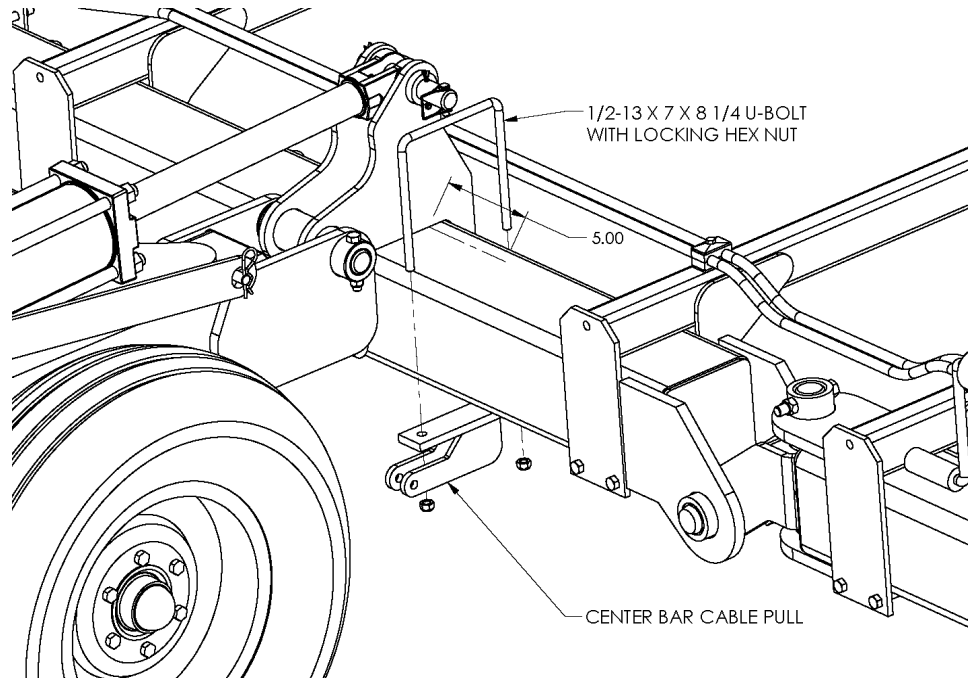

Figure 20
1. Attach the cable bracket to the center bar 5" from the cylinder hinge plate. Refer to Figure 20. Use two 1/2-13 x 7 x 8 1/4 U-bolts and locking hex nuts.